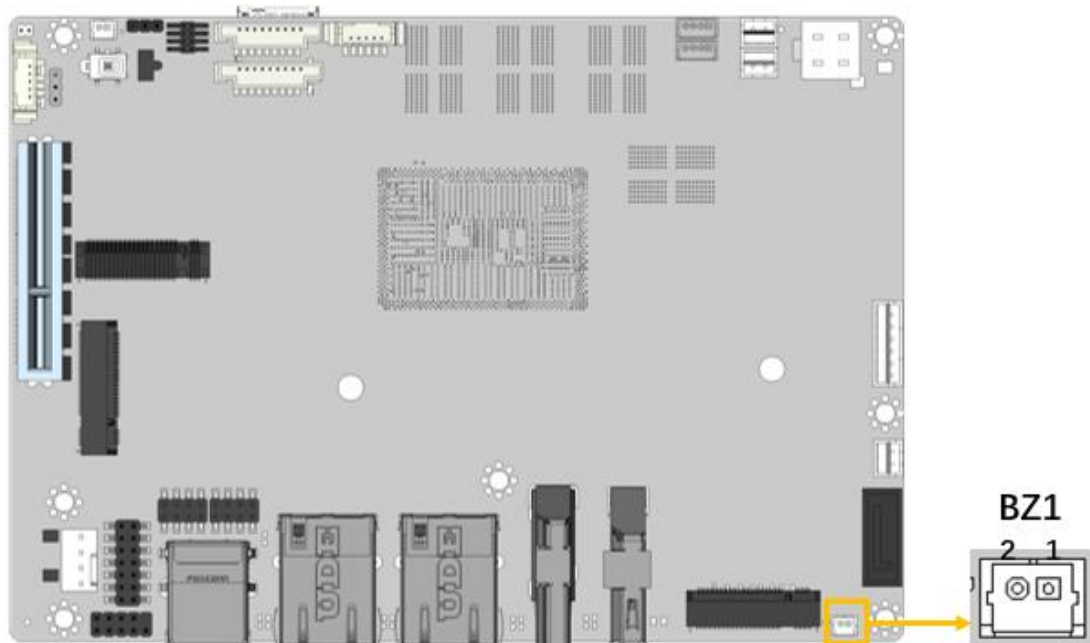

Figure 3-9: Buzzer Connector Location
- CN Location:** See **Figure 3-9**